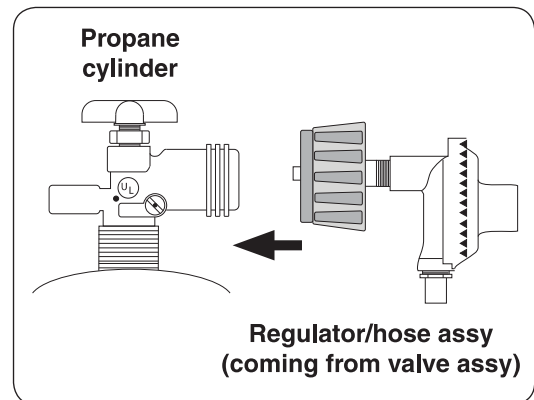

Fig. 15-3 Connecting to an L.P. cylinder
3. Attach the regulator end of the hose assembly to the propane cylinder and tighten (see Fig. 15-3).